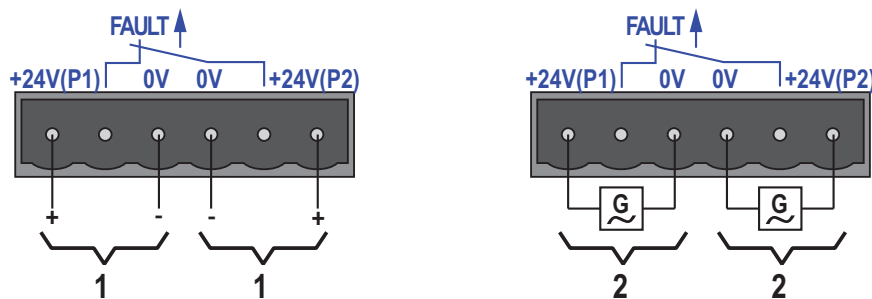

Figure 20: Connecting the supply voltage to the 6-pin terminal block
You can choose between DC or AC voltage when connecting the supply voltage. You use the +24V and 0V pins to connect the AC voltage (see figure 20).
- ▶ The signal contact (“FAULT”, pin assignment of terminal block see figure 20) is used to monitor the device function, and thus supports remote diagnostics. You can specify the type of function monitoring in the management.